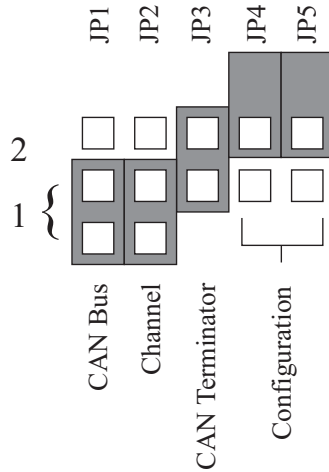

Figure 26: Static Configuration Jumper Position
To statically configure a CAN Peripheral, refer to Figure 26.
1. Make sure that jumpers JP1 and JP2 (CAN Bus channel) on the CAN Peripheral are fitted in position 1 (CAN1), as shown in Figure 26.
2. Make sure that jumper JP3 (CAN terminator) on the CAN Peripheral is fitted, as shown in Figure 26.
3. Make sure that jumpers JP4 and JP5 (Configuration) on the CAN Peripheral are fitted, as shown in Figure 26.